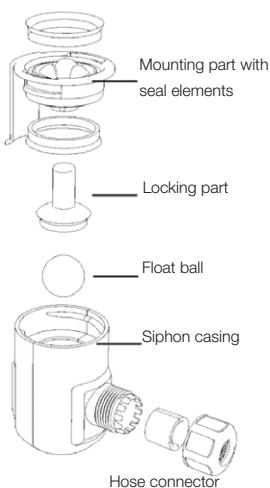

Fig. 11
1. Open ball siphon. Turn the mounting part a 1/4 turn (see Fig. 11).